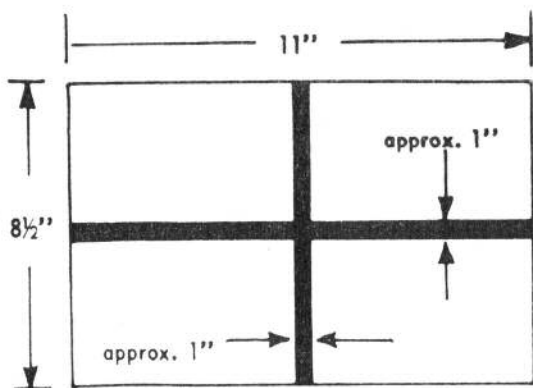

Fig. 12. "Cross" test card used for preliminary tune-up of camera.
- () 2. Prepare a simple test card as shown in fig. 12. Don't use complicated patterns yet—this test card was purposely designed to be as plain as possible. There's plenty of time for the more sophisticated patterns once an image has been obtained.